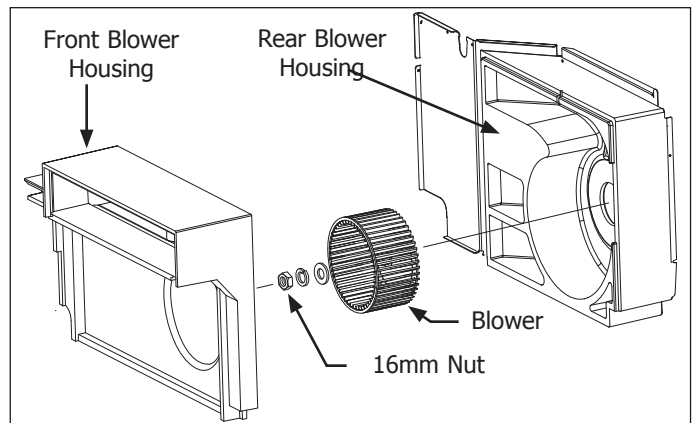

Figure 4-67.
4. Use a 16mm socket or wrench and remove the nut securing the blower wheel to the motor shaft. Pull the lock washer and washer off shaft, then pull blower wheel off shaft. (See Figure 4-67)